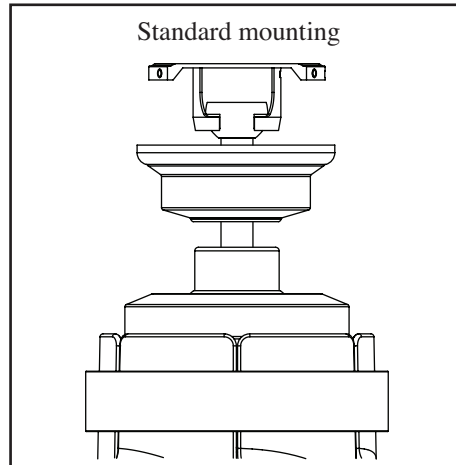

Figure 12
4. Carefully lift the fan assembly up to the ceiling mounting bracket. Make sure the tab on the mounting bracket is properly seated in the groove in the hanger ball. (Figure 12)